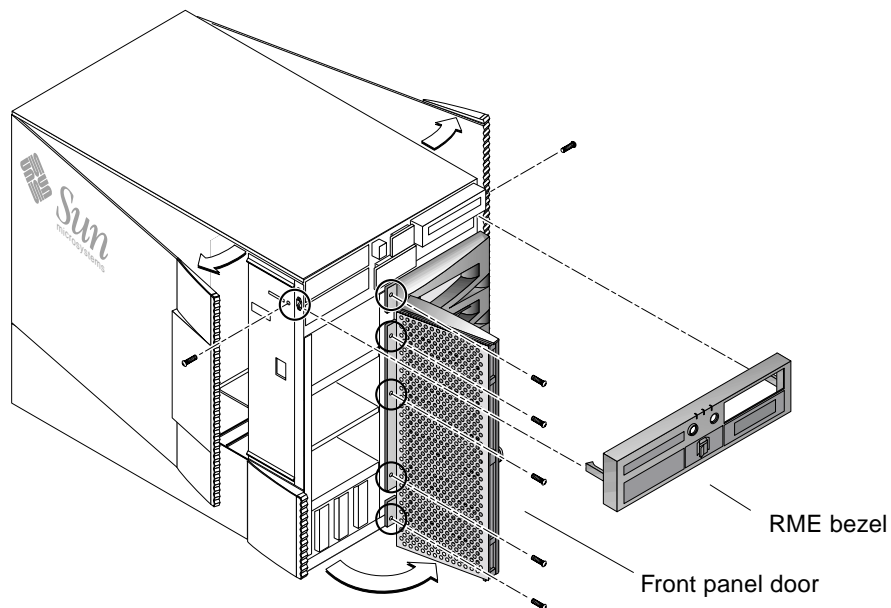

FIGURE D-1 Removing the Sun Fire V880 Server Front Bezel
1. **Remove the Sun Fire V880 server Removable Media (RME) console bezel (FIGURE D-1).**
2. **Open the Sun Fire V880 server left front panel door (FIGURE D-1).**
3. **Locate the five Phillips screws on the center post that secure the front panel door assembly to the system chassis. Remove and retain the five screws (FIGURE D-1).**